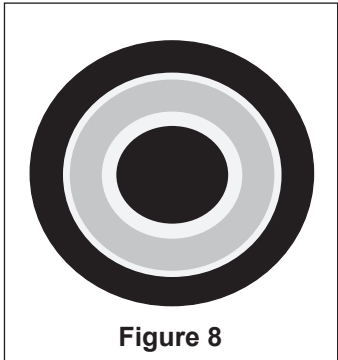

Figure 8
- 8 Turn the phase annuli centering knobs, which extend from the phase contrast condenser assembly, until the two rings of light are centered upon one another (see Figure 8).